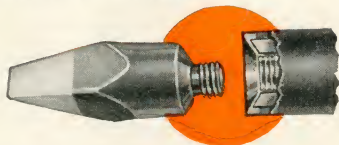

Fig. 3
5. Turn iron over. Draw cord with some tension on the fastened conductor into slot, up and over terminal insulator so that fastened conductor lies firmly in slot and cord centers on end of terminal insulator. (See Fig. 3)